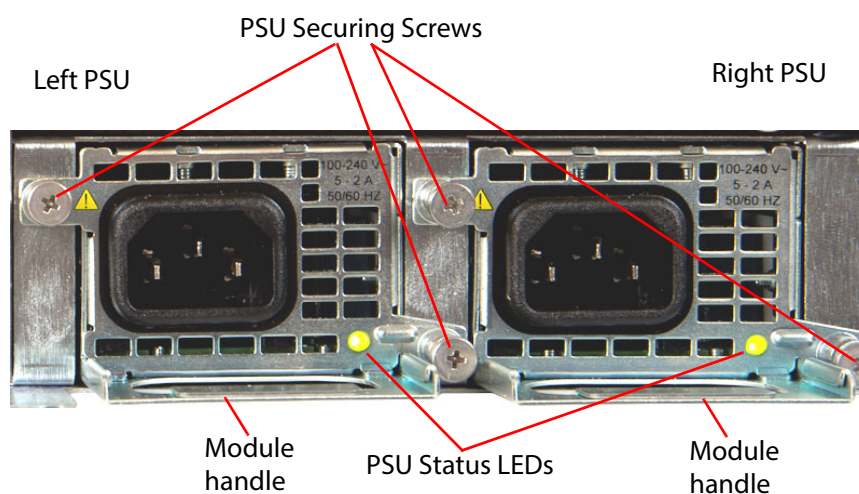

Fig. 6-4: MV-821 Multiviewer Rear PSU modules
Two PSU modules are fitted into the rear of the MV-821 chassis. Each is secured with two fixing screws, see Figure 6-4.
- 2 Unscrew two PSU securing screws, see Figure 6-4.
- 1 Note the orientation of a PSU module in the MV-821 chassis, see Figure 6-4.
- 3 Tighten the two PSU securing screws, see Figure 6-4. Do not over-tighten the screws.